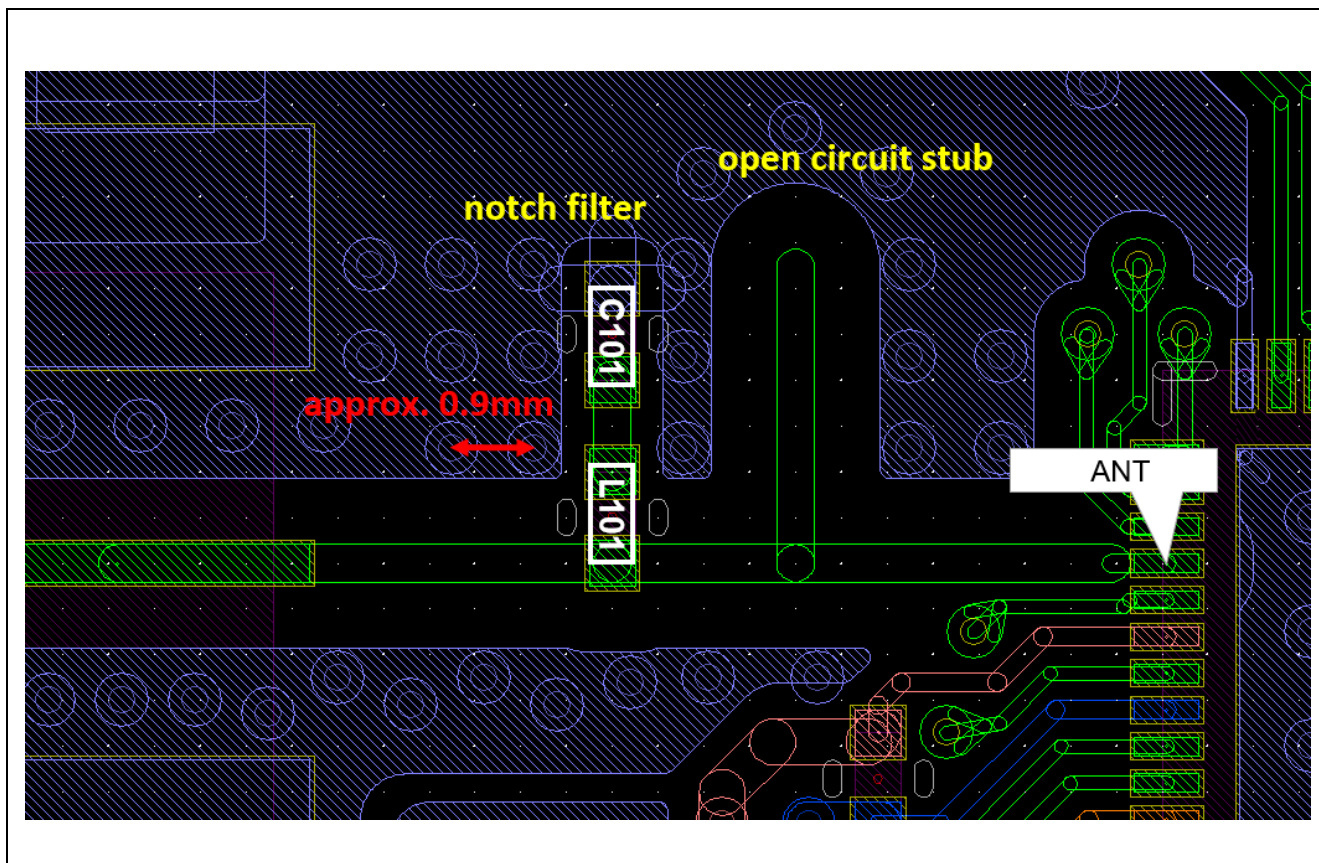

Figure 2-3 Example of the pattern around “ANT” pin
- Adjust the characteristic impedance of 50ohm for the signal line from an antenna to “ANT” pin. Optimize the width of signal line and the gap between signal line and ground pattern, considering the PCB permittivity and layer thickness. Depending on the antenna used, additional parts such as inductors or capacitors may be required. In "Figure 2-3 Example of the pattern around “ANT” pin", the coplanar waveguide is used.
- Place vias as many as possible between the coplanar waveguide ground pattern and the solid ground. We recommend that the via spacing should be approximately 0.9mm, as shown in "Figure 2-3 Example of the pattern around “ANT” pin".
Figure 2-3 shows an example of the pattern around “ANT” pin.